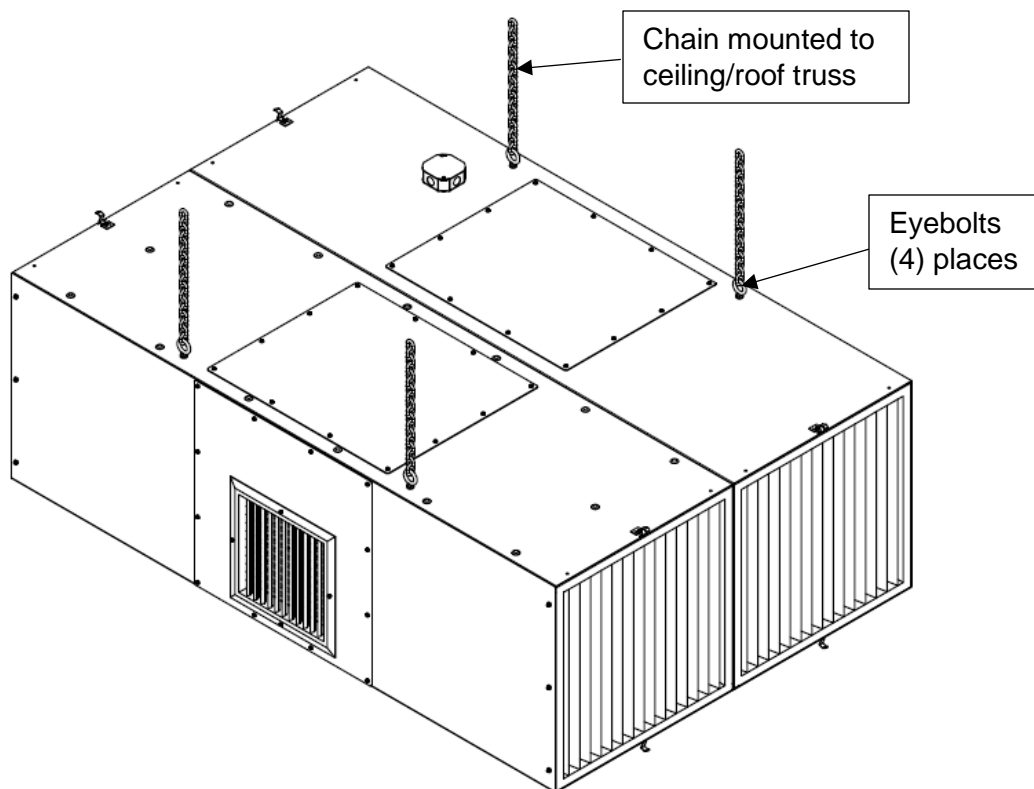

FIG. 1 – Horizontal Configuration.
3. Once eyebolts are secured, the MXT is ready to be hung in an appropriate location (See **FIGS. 1 & 2**).
2. Lift unit to access the threaded holes on the bottom of the cabinet. Depending on the configuration, the number of bolts will be different. The horizontal configuration bolts on 8 places on the bottom of the cabinets whereas the vertical configuration bolts on 4 places. **NOTE:** The cabinet can be lifted by installing eyebolts on the top. Eyebolts are not supplied by Micro Air (See **FIGS. 1 & 2**).